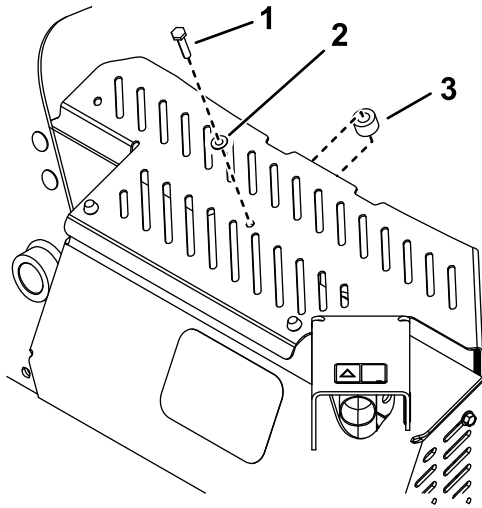

Figure 8
6. Use the thread-forming bolt (1/4 x 1-1/4 inch) and washer to install the spacer between the heat shield and muffler guard (Figure 8).